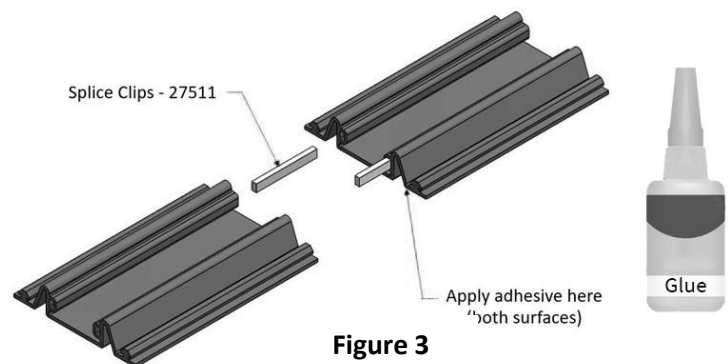

Figure 3
3. Next the Pantograph Mechanisms should be installed, three per 10ft section using Ø3/16” masonry anchors as required (see Shop Drawings). At the first 10ft section (lowest), install the first of three pantographs at approximately the middle of the first 10ft section. Then measure in from each edge 20” and place the pantograph hinges centered on that dimension. Pantograph mechanisms should installed 40” on center so that a uniform distance is maintained when multiple EJN-EWN Systems are connected end-to-end. **See Figure 3 & 3a.**
3. Next the Pantograph Mechanisms should be installed, three per 10ft section using  $\text{Ø}3/16$ " drywall or masonry anchors as required (see Shop Drawings). At the first 10ft section (lowest), install the first of three pantographs at approximately the middle of the first 10ft section. Then measure in from each edge 20" and place the pantograph hinges centered on that dimension. Pantograph mechanisms should be installed 40" on center so that a uniform distance is maintained when multiple EJM-EWN Systems are connected end-to-end. **See Figure 3 & 3a4a.**
ends of the splice clips into the ends of the two seals together, applying uniform pressure for at least two minutes while maintaining contact between both sides. The splice clip is not necessary, but is recommended, especially on larger sized seals. **See Figure 3**